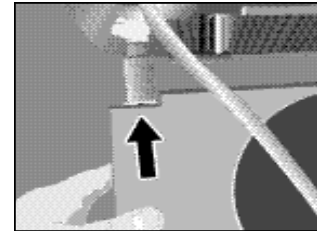

Fig.37
3. Position the external water tank on the support tray, making sure the quick connect on the water tank is aligned with the factory installed quick connect at the back of the cabinet. See *Fig.37*